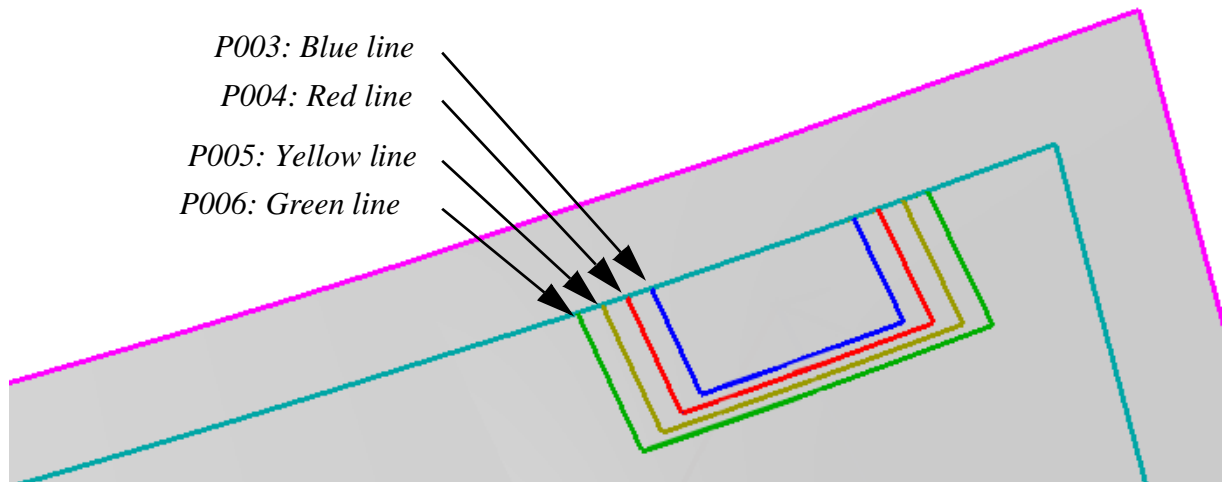

Figure 6–20
6. In the *Net Geometry* tab, for the *Boundary* column, link the geometry as shown in Figure 6–20.